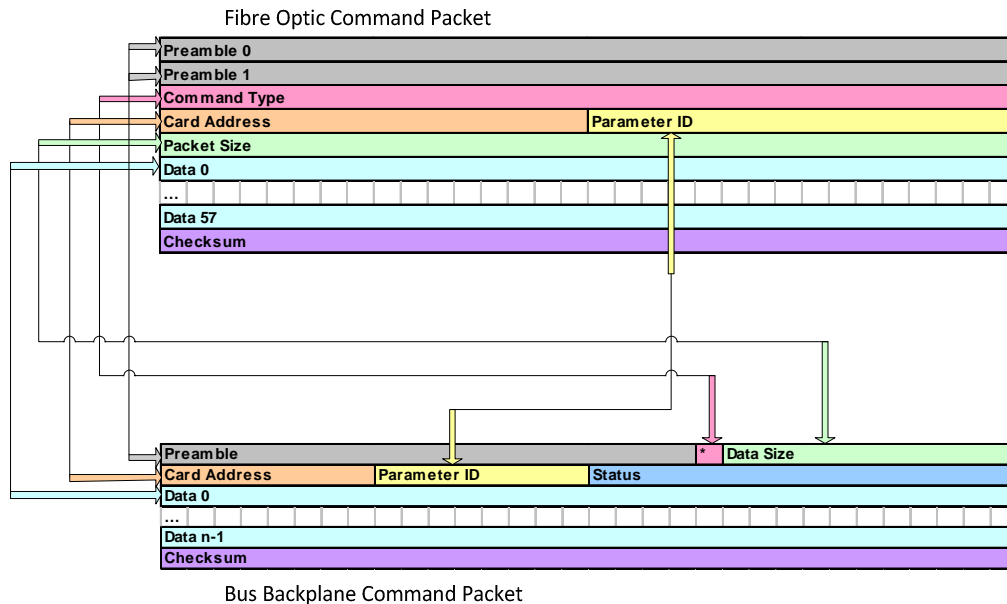

Figure 1 Comparing a Fibre packet to a Bus Backplane Packet
**Data Size:** 11 bits are allocated to specify size of the payload in terms of 32-bit words (excluding card address/status/checksum words). Therefore, a BB packet may contain up to  $2^{11}-1=2047$  words of data. However, the largest BB packet is a quarter-frame of data ( $41 \times 8 \times 4=1312$  words) transmitted from a single Readout Card (RC) to the Clock Card (CC).
**Command Type:** A single bit is used to encode command types with '1' indicating a write (or WB) command and '0' for a read (or RB) command. Refer to Figure 1, to see how other command types in the fibre packet are translated to one of the two when transmitted over the backplane. Note that
The correlation between the Backplane packets and Fibre packets is shown in Figure 1: